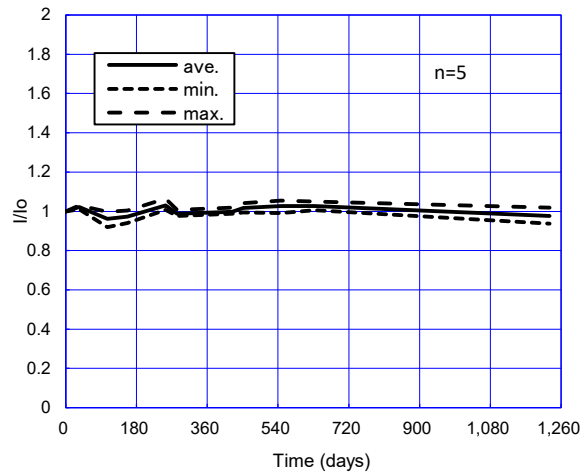

Fig. 8 - Long term stability of FECS44-100
Figure 8 displays long term stability data of FECS44-100 showing the sensitivity to 100ppm of NH3 measured using the basic measuring circuit. The Y-axis shows the ratio of output current in 100ppm of NH3 at any point in time (I) over output current in 100ppm of NH3 on the first day of the test (I0). Sensors were stored unenergized in normal air between each measurement day. This chart demonstrates very stable characteristics for more than 2 years.